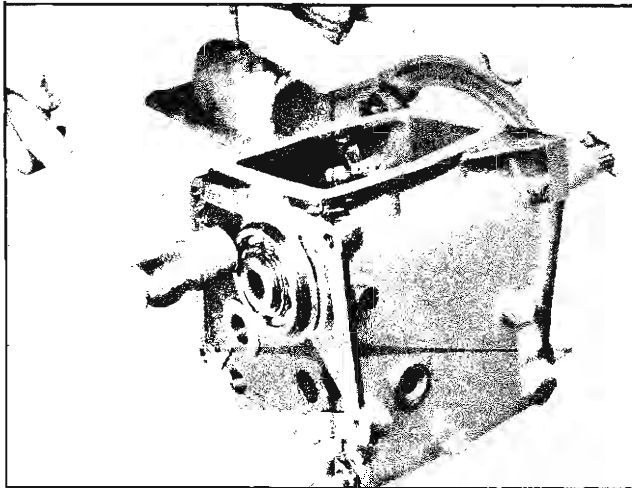

Fig. 7-40 Installing Clutch Gear Bearing
19. Drive clutch gear bearing into place (Fig. 7-40).